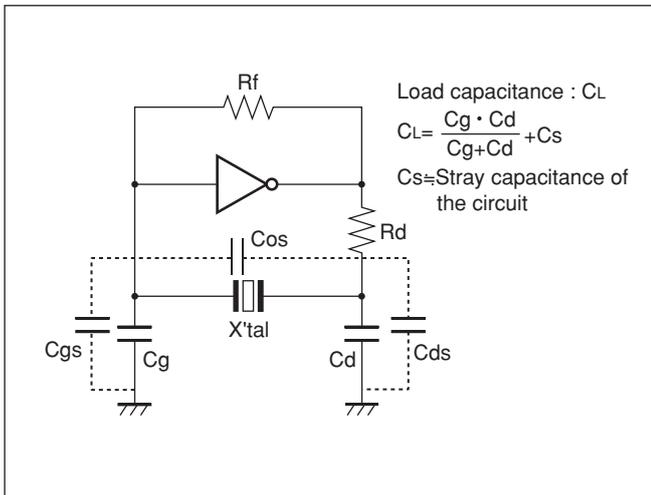

Figure 12
- The load capacitance (CL) is a parameter for determining the frequency of the oscillation circuit. The CL is represented by an effective equivalent capacitance that is loaded from the oscillation circuit to both ends of the crystal unit (see Figure 12).